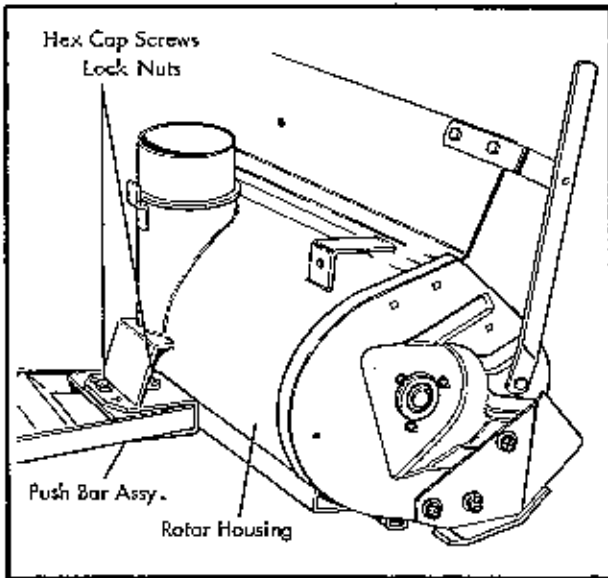

Fig. 1
1. Assemble the push bar assembly to the rear of the rotor housing using 2 hex cap screws $1/2'' - 13 \times 2-1/2''$ lg. and 2 hex nuts $1/2-13$ as shown in figure 1.